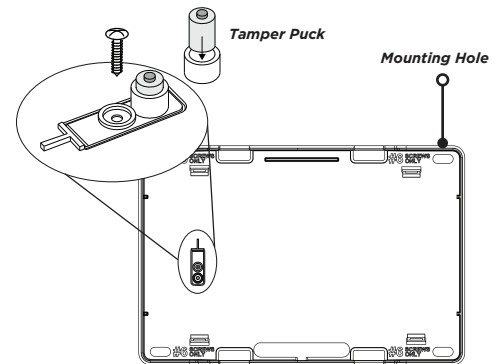

Figure 2: Inside of the 1100R Housing
2. Secure the 1100R to the wall using the supplied screws in the mounting hole locations shown in Figure 2.